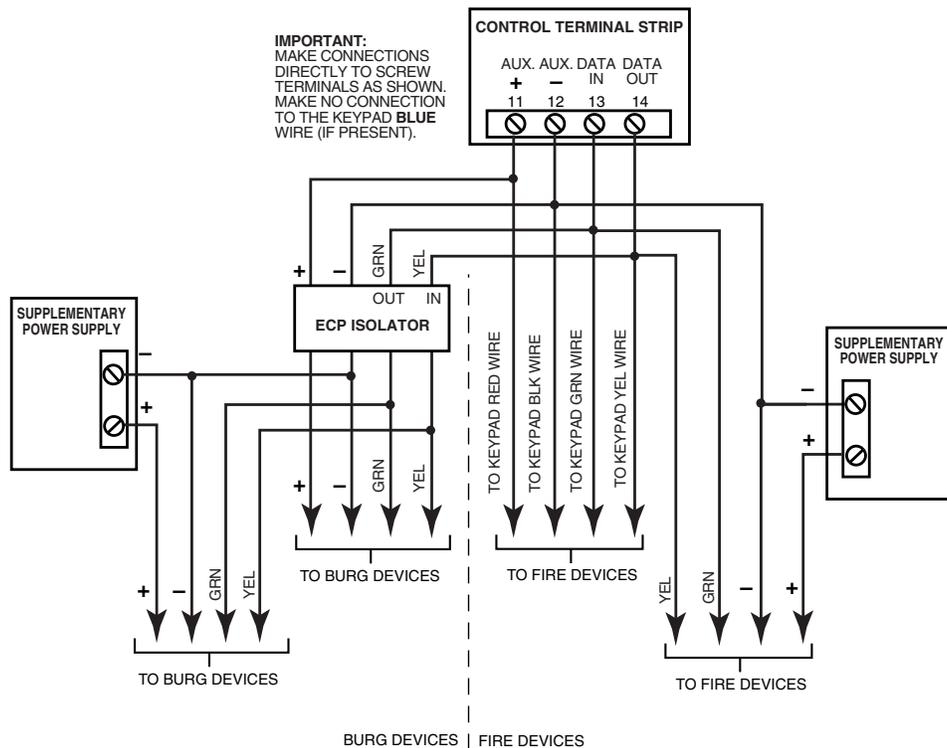

Figure 3-9. Using a Supplementary Power Supply
Connect the additional keypads as shown in *Figure 3-9*, using the keypad wire colors shown. Be sure to observe the current ratings for the power supply used.
- Make connections directly to the screw terminals as shown in *Figure 3-9*.